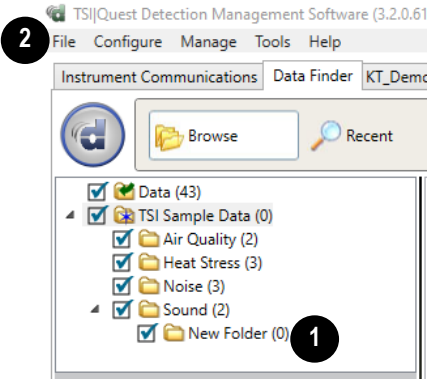

Figure 1-51: Edge and importing a shared data file
Point your mouse over the folder you want to save the data in the data finder page, and DMS will display the file location (see **1** of Figure 1-51). If the file was emailed, right-click on the attached file and save it to the location displayed from the DMS mouse over (if applicable). Once saved, right-click on the folder via the Data Finder Page and select **Refresh**. The files will be imported into DMS.
- Alternatively, from the menu bar, select **File** (see **2** of Figure 1-51), **Open**, and then browse to the folder location, select the file, and click **OK**.